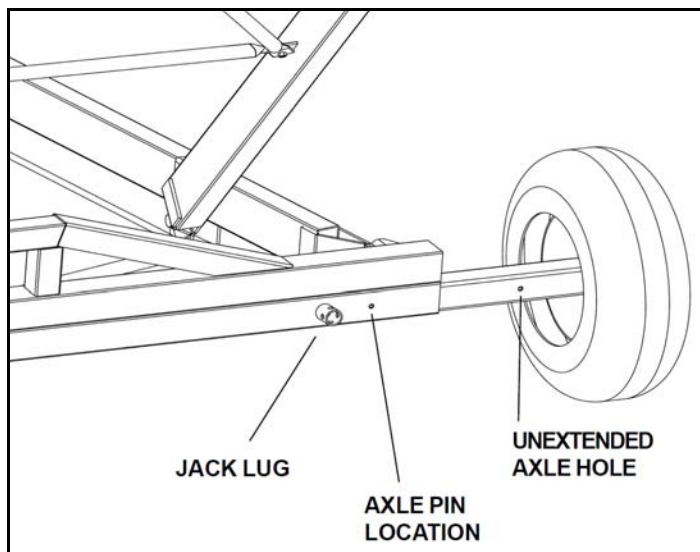

Figure 4.4
14. Using the jack supplied, insert it into one of the jack lugs located on one end of the axle (Figure 4.4). See Figure A for jacking point. Jack must be secured to jack lug using pin (attached to jack).
16. Remove the axle pin from the axle and slide the axle outwards 16" until the second set of holes line up (Figure 4.4). Reinsert the pin and secure with snap pin. Lower the jack.